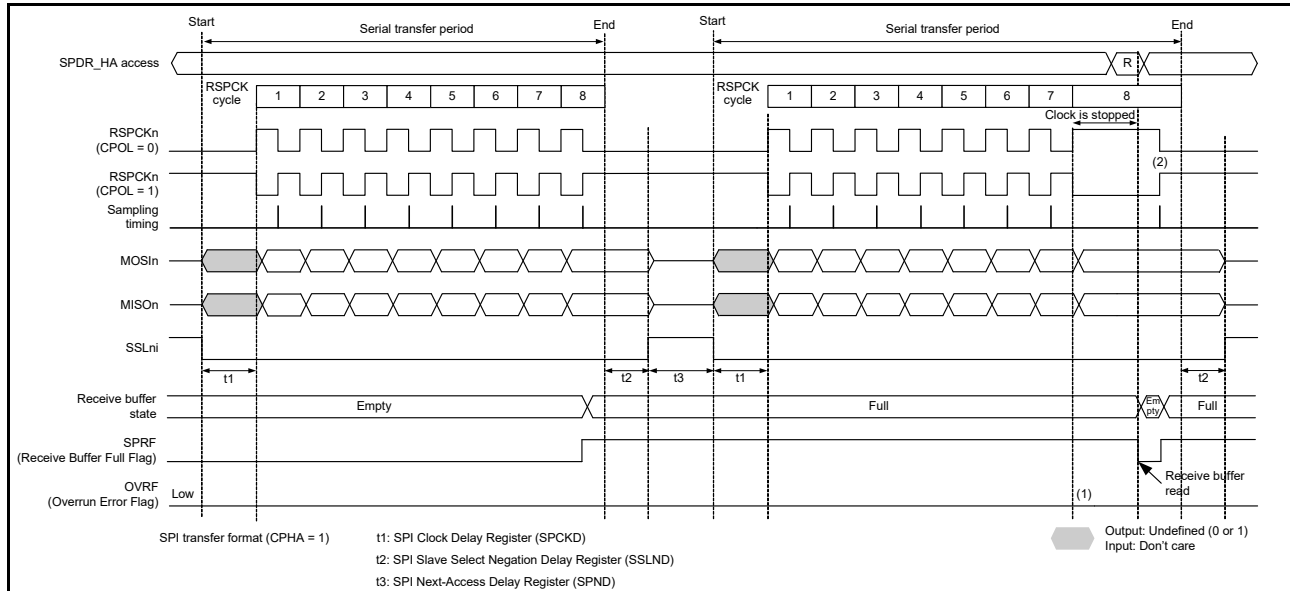
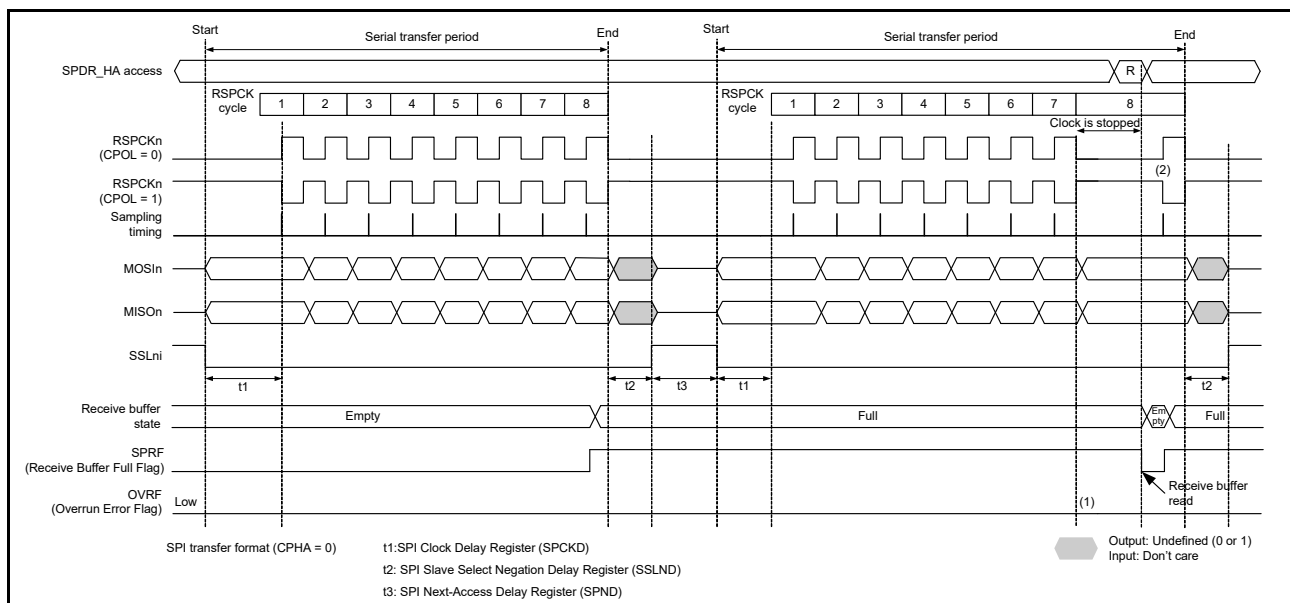

Figure 31.29 Clock stop waveform when serial transfer continues while receive buffer is full in master mode with CPHA = 1
Figure 31.30 Clock stop waveform when serial transfer continues while receive buffer is full in master mode with CPHA = 0
When the RSPCK auto-stop function is enabled in master mode, an overrun error does not occur. Figure 31.29 and Figure 31.30 show the clock stop waveform when a serial transfer continues while the receive buffer is full in master mode.
The operation of the flags at timings (1) and (2) in Figure 31.29 and Figure 31.30 is as follows: